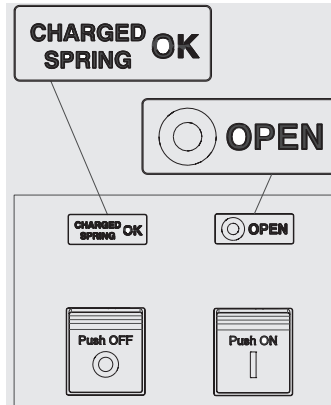

Figure 49
2. Circuit-breaker open with springs charged (see Figure 49).